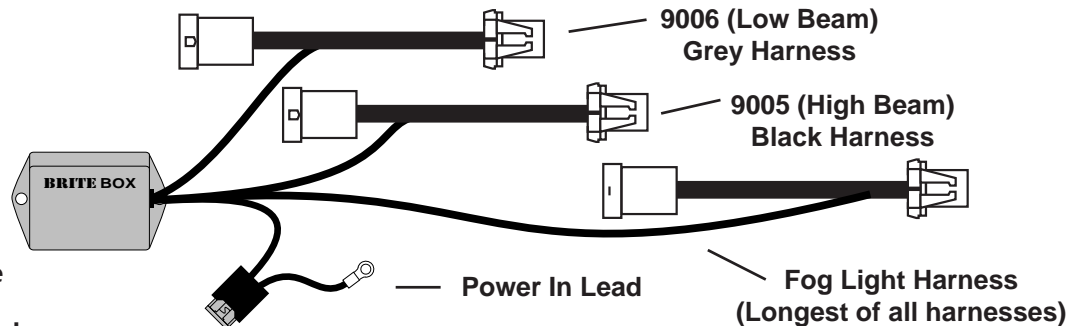

Figure 1
**STEP 2:** Find a suitable location to mount Brite Box on inner fender of vehicle near battery. Make sure the low and high beam harnesses from Brite Box (see figure 1) can be run to the vehicle's headlight wires. The red wire (attached to fuse holder) of Brite Box must be able to reach positive (+) power lug near main underhood fuse box of truck.
**STEP 5:** Route Brite Box's FOG LIGHT HARNESS (see Fig. 1) to fog light on same side of truck where you installed Brite Box. Brite Box's fog light harness only needs to be connected to one fog light to work both of them. Make sure wires do not pass over any rough / sharp edges that can wear through the insulation and cause a short circuit over time. Use supplied cable ties to secure wire from fog light harness in a neat and tidy manner.